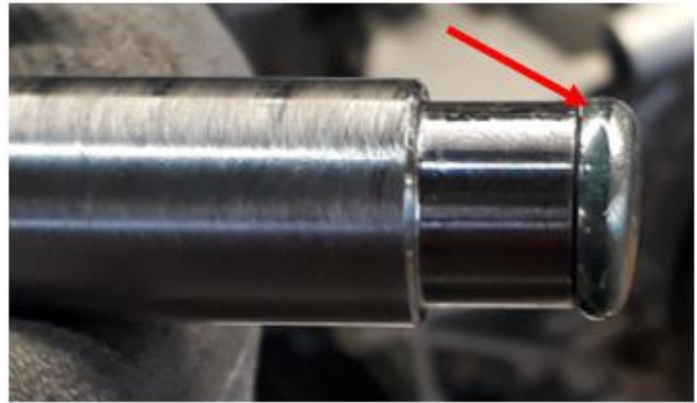

Figure 4. Sealing cap on a drift.
3. Place the new sealing cap on a drift and coat it lightly with locking fluid around the outside edge (red arrow Figure 4).